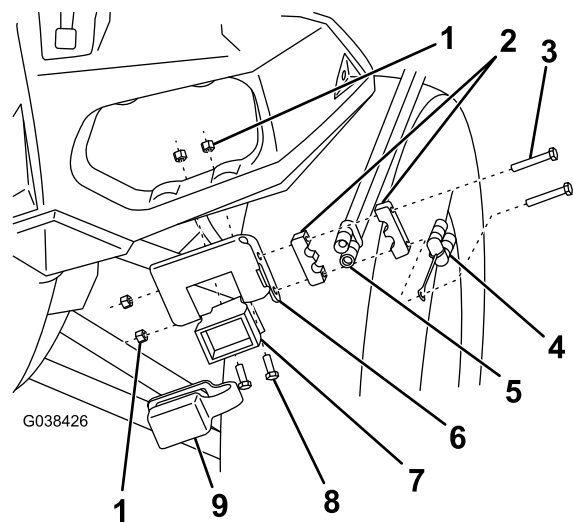

Figure 8
2. Mount the vehicle-side, wire-harness plow connector to the left side of the front bumper using the control-harness mounting-bracket and 2 cap screws and self-locking nuts (Figure 8).
3. Mount the power/ground connector to the control harness mounting bracket (Figure 8).